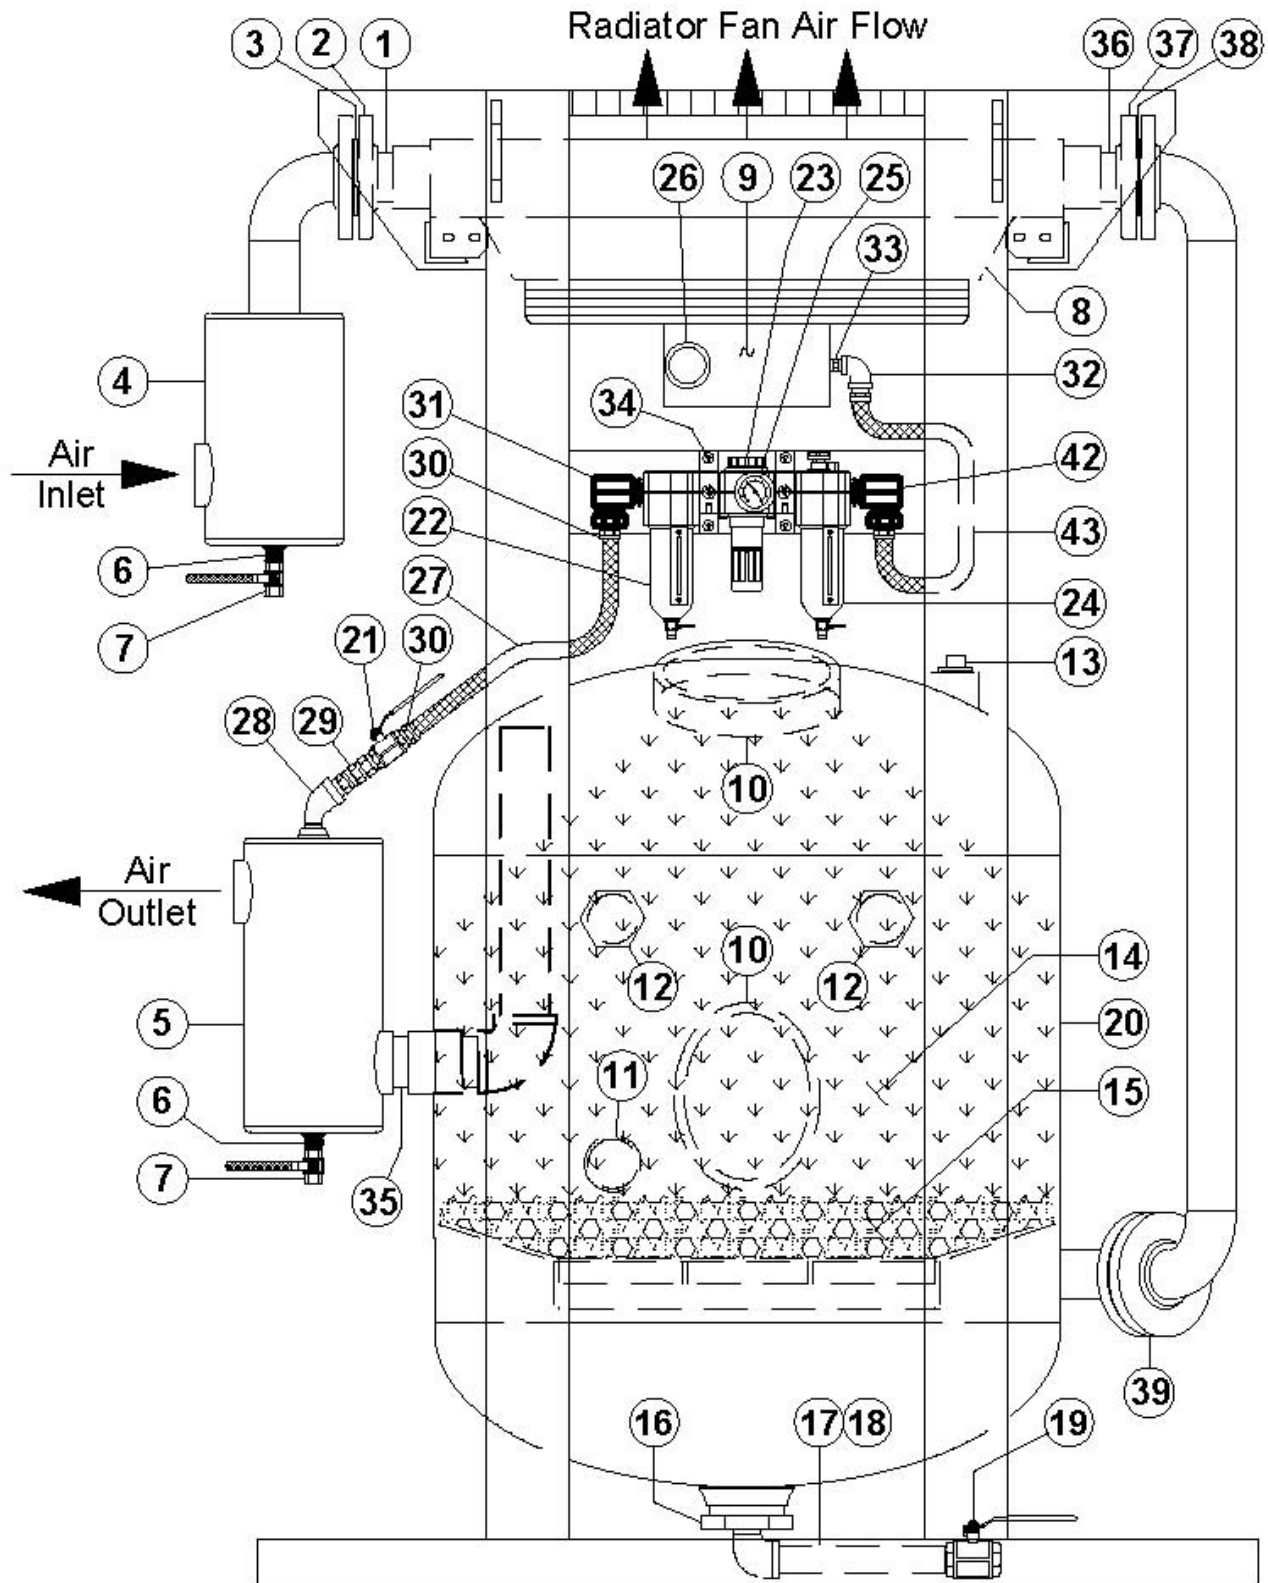

Figure 6.1 – Typical AirPrep Dryer System
This section contains part identification numbers (#) within the text that are found on the Figure 6.1. Refer to these drawings as needed while reading this manual.
6.1 AirPrep System Setup Procedure (see Figure 6.1)